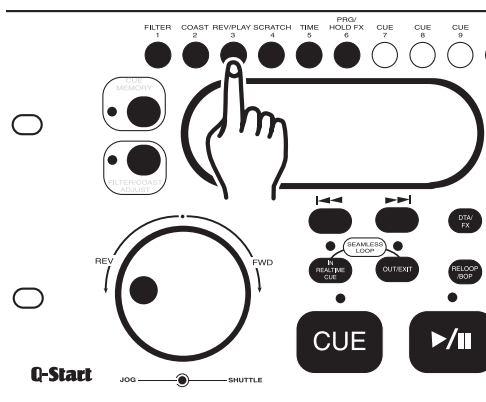

Figure 34
Reverse play allows you to play a track, loop, or sample backwards. This function is activated by pressing the REV/PLAY BUTTON (4) as in figure 34. This function will react differently to different playback modes: